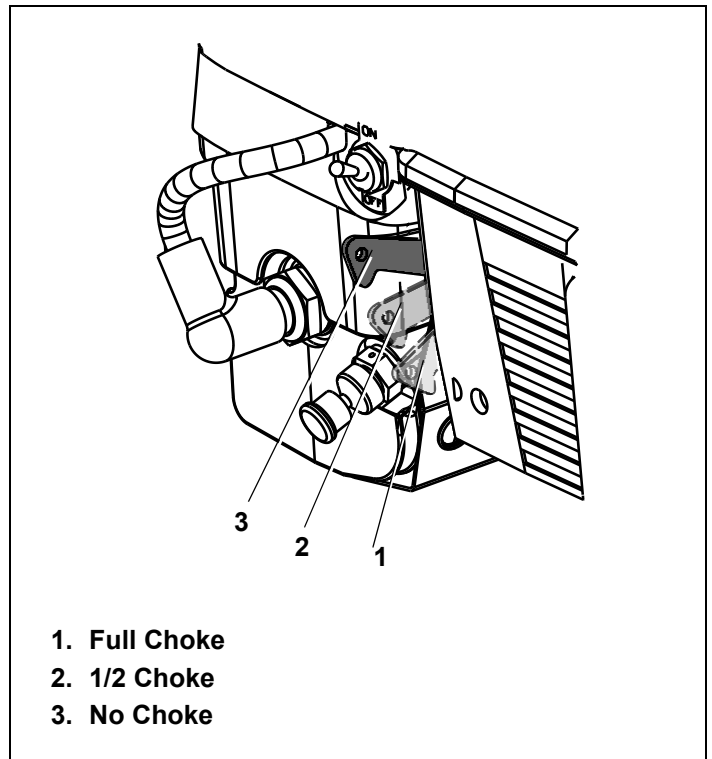

Figure 14. Choke Lever Position
If restarting a warm engine after a short shutdown, move choke lever to "NO CHOKE" position and continue reading the text below. See Figure 14.
- a. Momentarily move choke lever to "1/2 CHOKE" position until engine runs smoothly. See Figure 14.